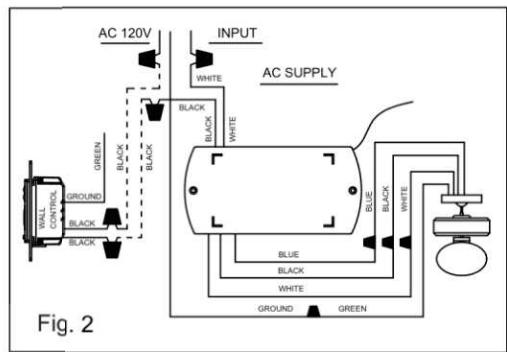

Fig. 2
**Step 2.** Make the electrical connections as shown in Fig.2. If your outlet box has a ground wire (Green or Bare Copper) connect the Wall Transmitter's ground wire to it. Otherwise connect the Wall Transmitter's wire directly to one of the screws from the outlet box. Secure all wire connections with the plastic wire nuts provided.